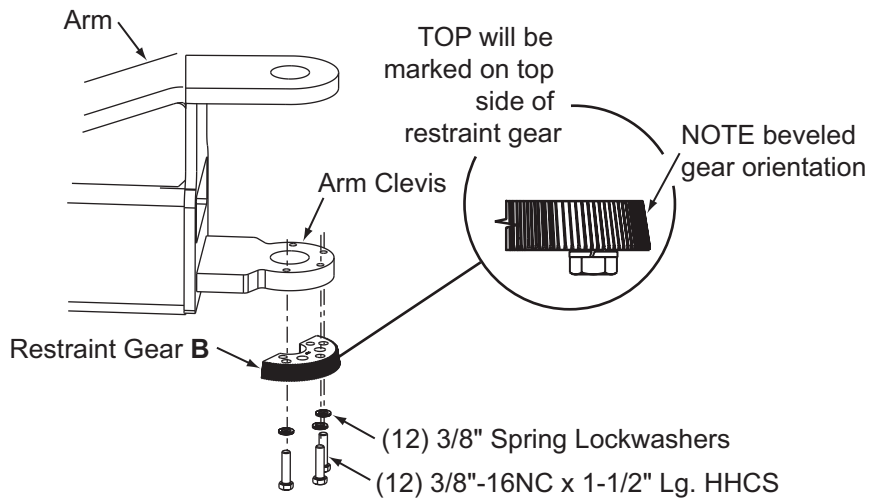

Figure 15
- Install the swing arm restraints, Figure 15.